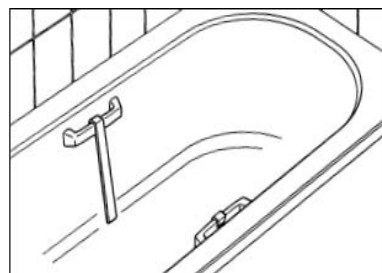

Fig.4
- When fitted correctly, they should rest at the bottom of the edge of the bath (see Fig.4). If necessary they may be trimmed to length. Sharp edges of the trimmed end can be removed with abrasive paper or a file.